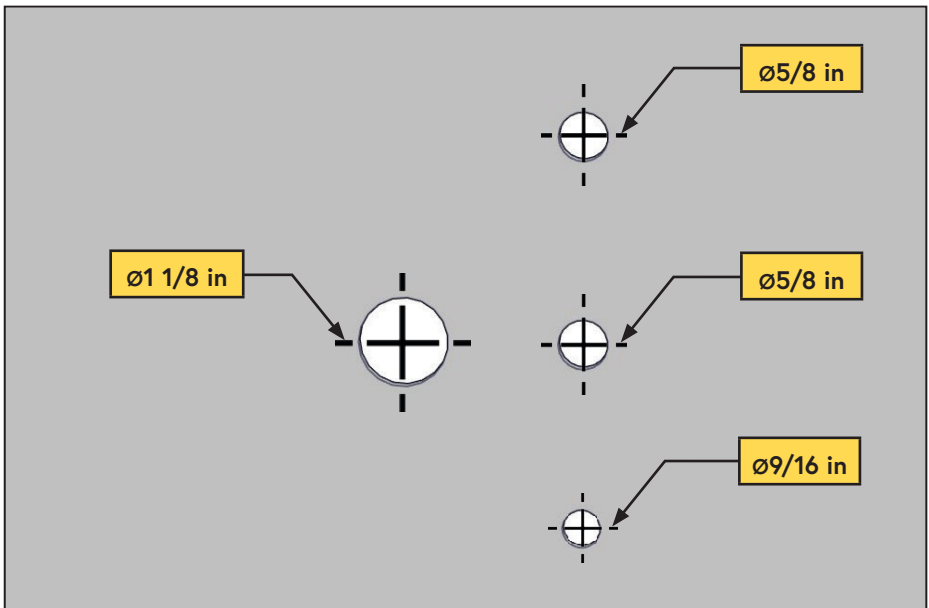
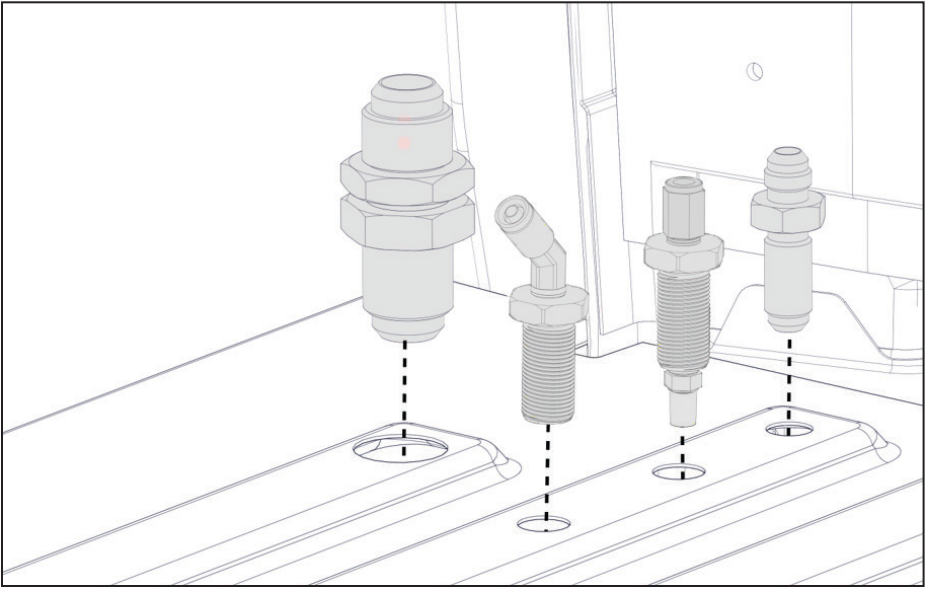
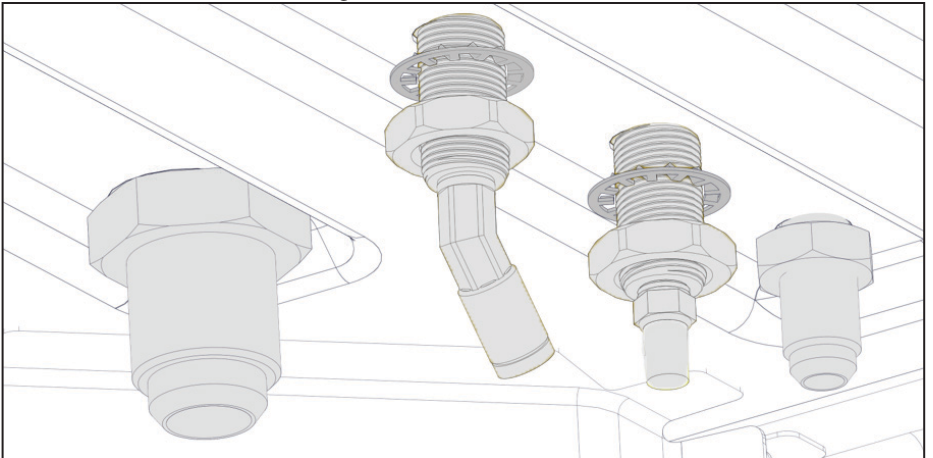

Figure 28 — Hole diameter
Figure 29 — Interior View
Figure 30 — Exterior View
Drill the bulkhead fitting holes using a drill, step drill or hole saw. Leave enough room between the fittings to allow access for a wrench (Figure 28, Figure 29, Figure 30):
- Fit the bulkhead fittings through the top of the hole and secure from the bottom with the supplied nuts. Apply Loctite 567 (thread sealant) when installing the 1/4 in push-to-connect fittings in the bulkhead fittings (Figure 29, Figure 30).